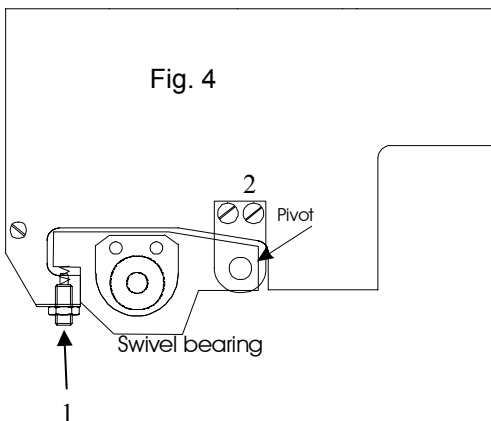

Fig. 4
3. Loosen lock nut of pressure screw (Fig. 4/1) and uncrew it until the spring releases the swivel bearing plate.
4. Remove holding plate (Abb.4/2) at pivot and pull out swivel bearing together with plate. If jammed carefully knocking on it or use a screwdriver from behind.